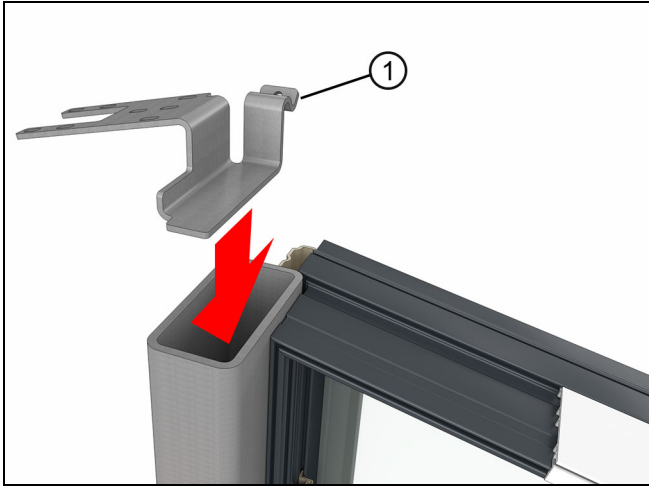
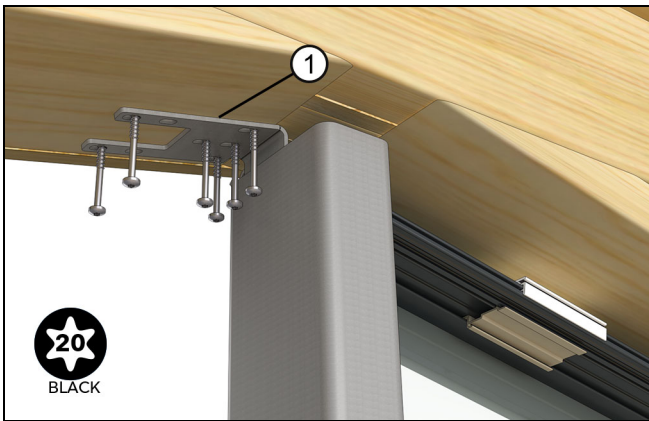

Figure 169
Figure 170
2. Tube Steel Mulls: will use handed brackets at the head jamb. At the sill, you will use the standard mull bracket unless you have a sloped sill in which case you will use a handed polygon bracket. See Figure 169 and Figure 170.